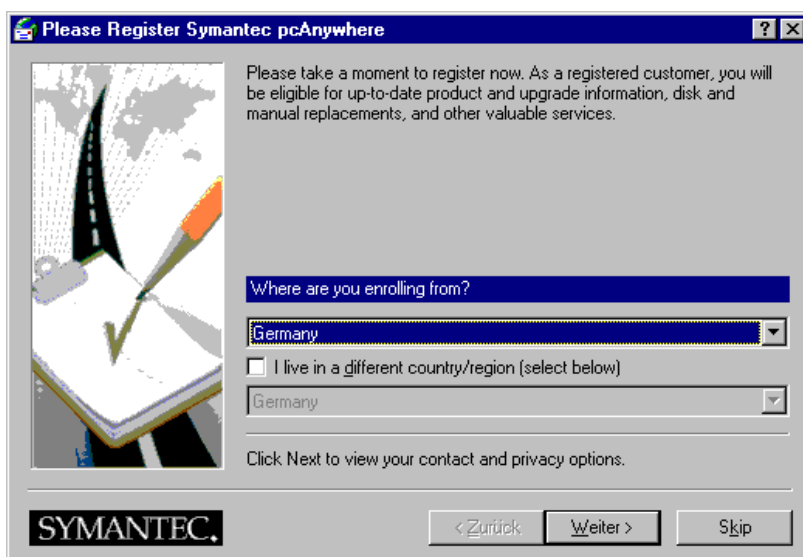

Fig. 22
- Window "Please Register Symantec pcAnywhere" (Fig. 22) is displayed.